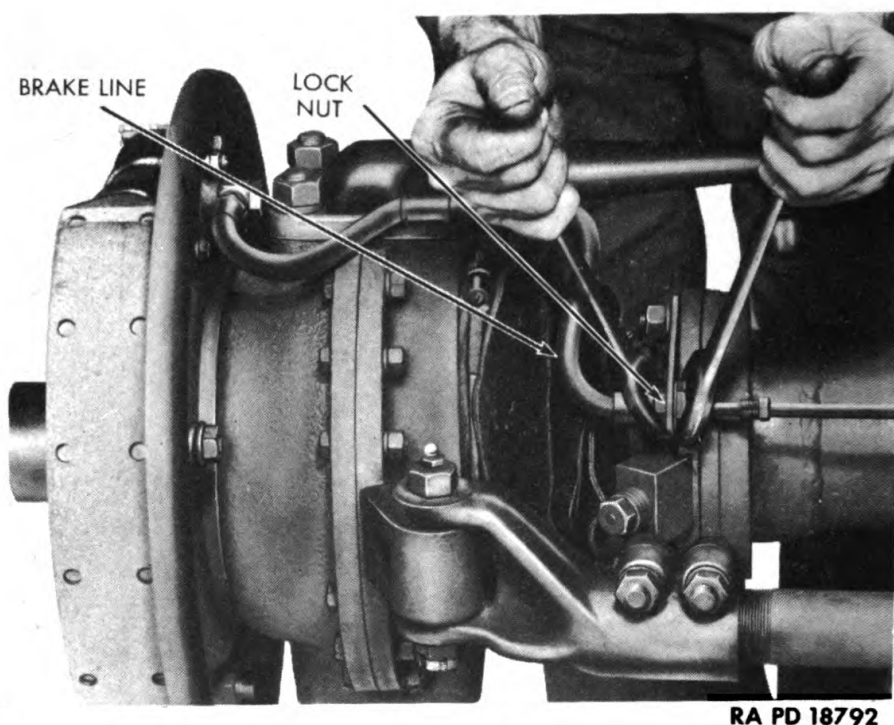

Figure 26 — Disconnecting Brake Line
d. **Disconnect Brake Tube.** Disconnect brake tube from bracket connection at axle housing. Remove lock nut from tubing connection, and remove connection from bracket (fig. 26). Remove nut and lock washer holding brake flexible tube clip to steering arm, and lift clip from stud.